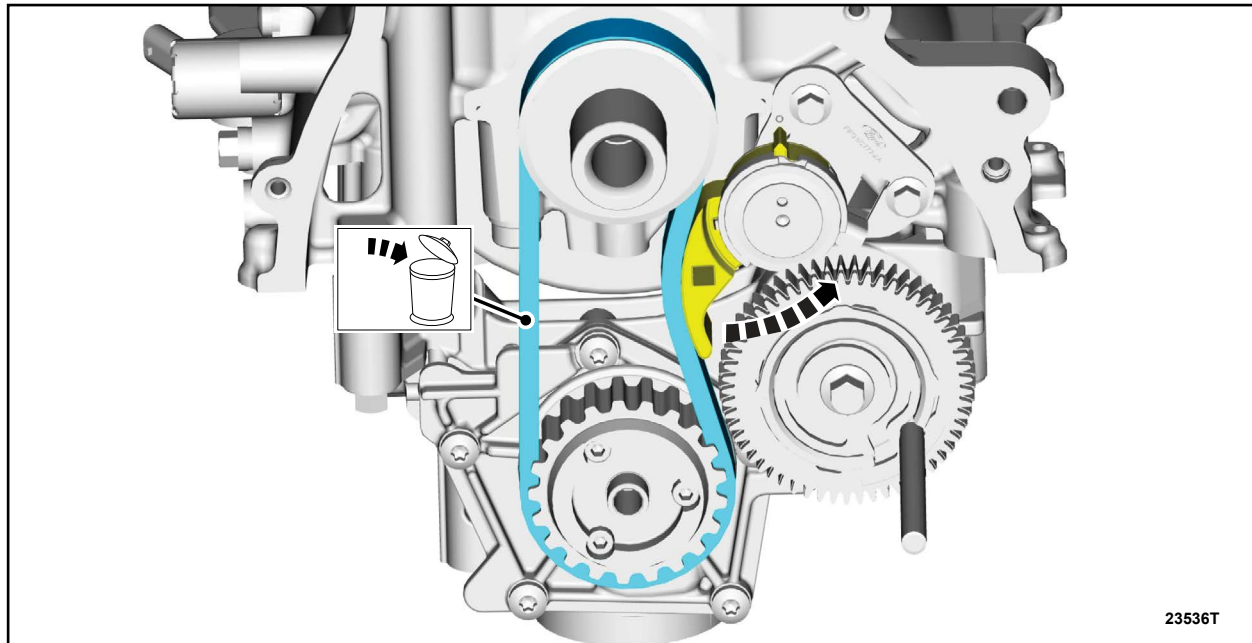

FIGURE 21
27. Using a suitable tool, rotate the oil pump belt tensioner. Then, remove and discard the oil pump belt. See Figure 21.